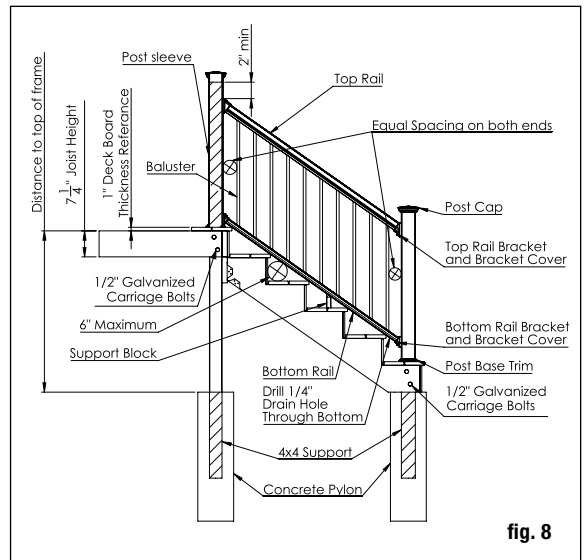
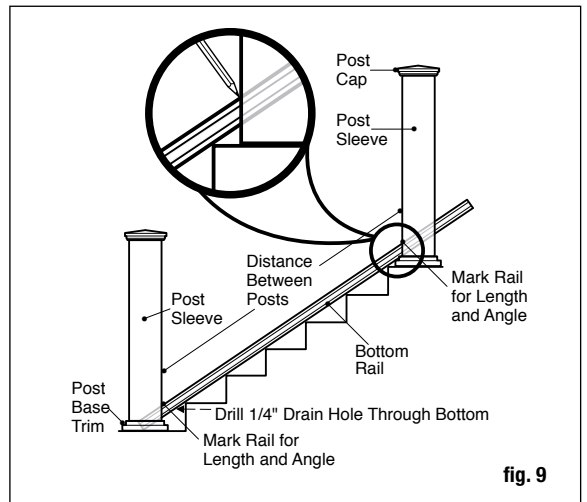

fig. 8
fig. 9
**Step 2** Install wooden stair posts prior to installing stair treads. Cedar or pressure-treated pine 4x4 railing posts provides the structural strength for the stair railing. Position, plumb with a level, and clamp 5-ft. Wooden posts on the interior face of the stringer. Plumb again. The 4x4 stair railing post should be bolted to the inside of the stringer using two 1/2"x6" galvanized carriage bolts, washers and nuts. Corner posts use a third carriage bolt, washers and nuts inserted through the adjacent joist. Ground level posts should be set in concrete as shown (fig. 8). Deckorators structural post mount kits (item #215036, sold separately) can also be used to secure the post to the top of concrete.
**Step 5** Measure the distance between installed post sleeves to determine the length of the top and bottom rails. Ensure baluster holes are oriented in the right direction. Then place the bottom rail on the stair treads next to the posts and adjust so the distance between the first baluster hole and post is greater than 2-3/4" minimum and equal on both ends (fig. 8). Mark the rail to show the desired length and cut angle. Cut the bottom rail. Transfer the cut lines from the bottom rail to the top rail, then cut both rails. (fig. 9). **Drill one 1/4" drain hole through the bottom of the rail to prevent trapping water. Position the hole toward the lower end of the rail, roughly 2.5" from rail end to avoid the lower bracket.**
**Step 6** Place the proper rail bracket covers and stair brackets on the ends of the bottom rail. Pay particular attention to the brackets being used as they differ based on top/bottom rail and up/down angle. Determine the position of the support block and attach to the bottom rail. Prop the bottom rail between the posts on the stair treads (fig. 9). You may need to place equal shims between two stair tread noses to elevate the bottom rail. Check for requirements in your area. Typically, a 6" sphere may not be allowed to pass through the triangle formed by the bottom rail, tread and riser (fig. 8). Center the stair bracket on the post. Using the stair bracket as a guide, mark the screw positions on the post